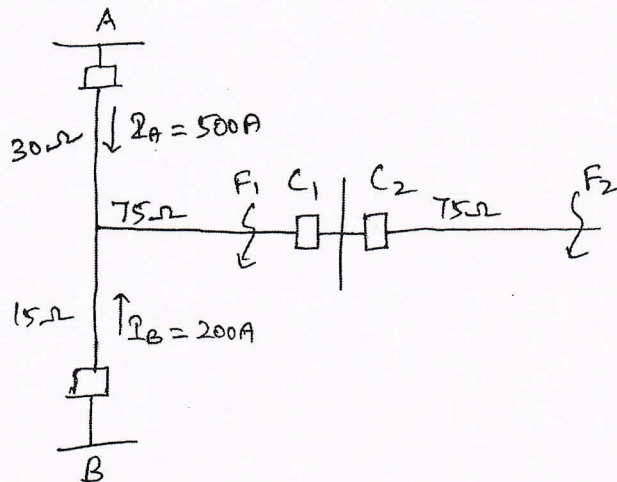

Fig Q4(a)
- 4 a. Fig Q4(a), show distance protection for a section of power system. The I zone setting at A and B is 150Ω .